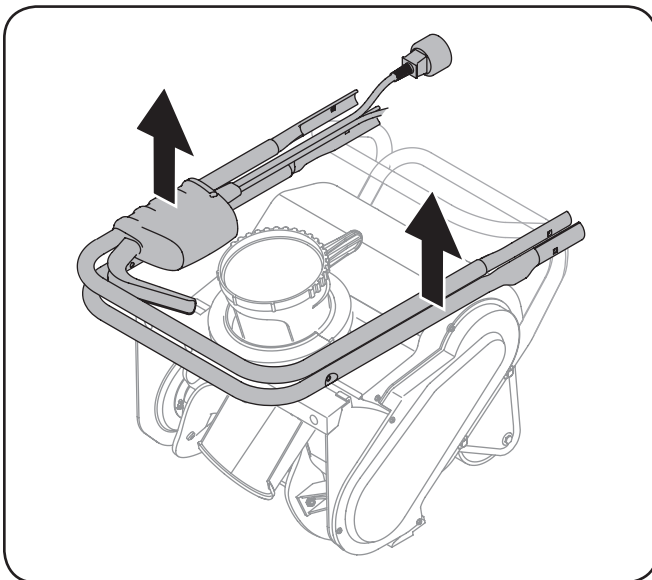

Figure 3-1
2. Lift the upper handle and mid handle up and off the snow thrower. See Figure 3-1.